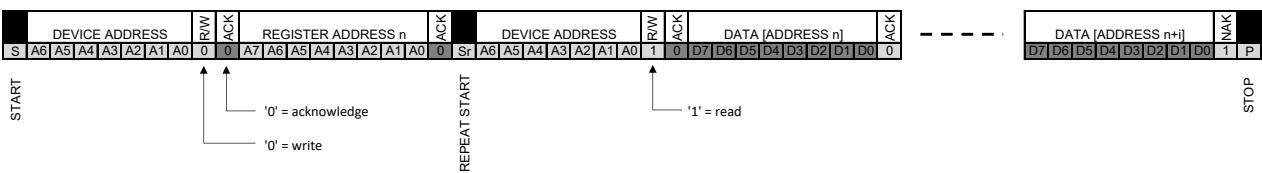

Figure 10: I2C read transaction - combined format (with repeat start)
- in the combined format (i.e. issue a repeat-START bit, slave address and read indication). See Figure 10.